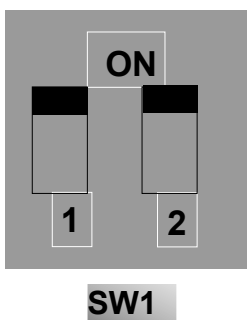

Figure 8-4
- v. There is a red two-digit coding switch SW1 near the control terminal block, as shown in Figure 8-4. The function of coding switch is to select the voltage signal (0~5V/0~10V) or current signal of analog input terminal AI2, current channel is default. In actual application, select the analog input channel through F203. Turn switches 1 to ON and 2 to ON as illustrated in the figure, to select 0~20mA current speed control. Other states and modes of these switches are shown in table 8-2,